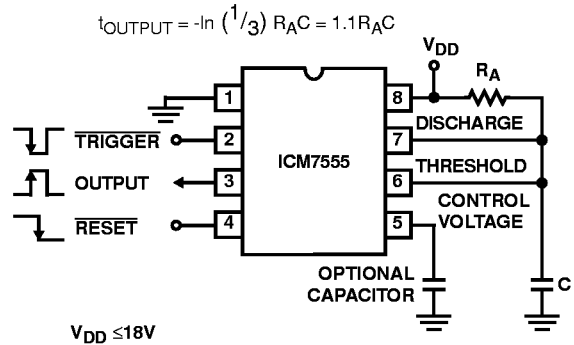

FIGURE 3. MONOSTABLE OPERATION
In this mode of operation, the timer functions as a one-shot, see Figure 3. Initially the external capacitor (C) is held discharged by a transistor inside the timer. Upon application of a negative $\overline{\text{TRIGGER}}$ pulse to pin 2, the internal flip-flop is set which releases the short circuit across the external capacitor and drives the OUTPUT high. The voltage across the capacitor now increases exponentially with a time constant $t = R_A C$. When the voltage across the capacitor equals $\frac{2}{3} V_{DD}$, the comparator resets the flip-flop, which in turn discharges the capacitor rapidly and also drives the OUTPUT to its low state. $\overline{\text{TRIGGER}}$ must return to a high state before the OUTPUT can return to a low state.